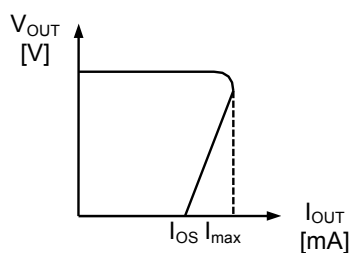

Figure 19
The S-87x Series has a built-in short-circuit protection circuit to protect the element from break caused by a large current in case of a short circuit. The output short current is internally limited to approx. 70 mA. Short-circuit protection circuit has three kinds characteristics according to input voltage (V_{IN}) as shown in **Figure 19 to 21**.
- (1) At the time of voltage detection, the voltage regulator is shutdown and load current is cut. Therefore, VIN pin voltage increases by $\Delta V_{IN} = I_{IN} \times R_{IN}$, where the current flowing into R_{IN} is set to I_{IN}. Hence, if ΔV_{IN} exceeds hysteresis width (V_{HYS}), oscillation starts immediately after detection and continues. It is necessary to set ΔV_{IN} less than V_{HYS}.
- (2) At the time of voltage release, the voltage regulator is powered on and load current flows. Therefore, if ΔV_{IN} exceeds hysteresis width (V_{HYS}), oscillation starts immediately after release and continues. It is necessary to set ΔV_{IN} less than V_{HYS}. Also at the time of voltage release, the rush current to charge output capacitor (C_{OUT}) flows. Hence, oscillation momentarily starts until the output of regulator (V_{OUT}) rises high enough even though ΔV_{IN} is set less than V_{HYS}. But Short-circuit protection circuit controls the rush current less than I_{MAX} on Figure 19 to 21. If this momentary oscillation is a problem in your application, setting R_{IN} less than V_{HYS}/I_{MAX} prevents oscillation.